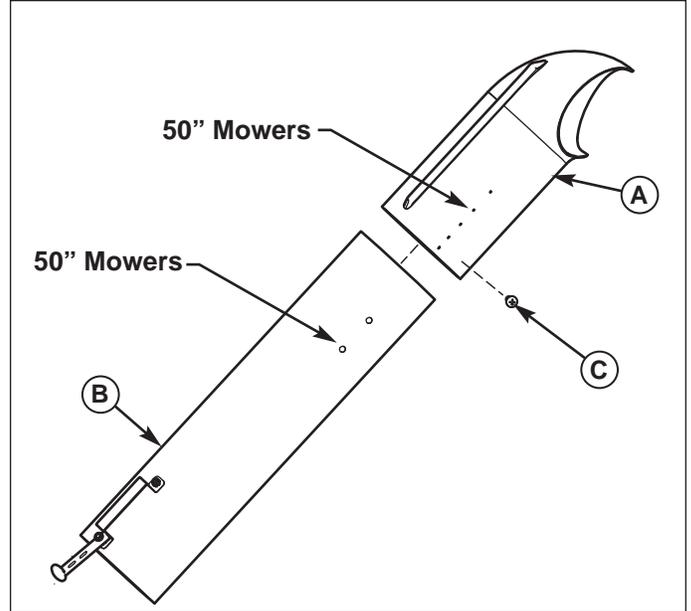

**Figure 7. Install Collector Bags**
1. Raise the cover (A, Figure 7).
2. Attach collector bags (B) using grass bag hanger (C) to bag hanger post (D).
1. Attach bag and cover support assembly (B) to hitch support assembly (A) by sliding the support mount (X) over the upright support until the support mount (X) makes full contact with the shoulder bolts (C).
2. Insert mount pin (D) through the support mount (X) and upright support (A) as shown.
3. Secure mount pin (D) with retainer spring (E).
4. Attach cover assembly (I) to bag support bracket (B) using cover hinge pivots (H). Secure cover assembly to bag support bracket using hinge pins (F) and retainer springs (E).
5. Raise the cover (I), attach collector bags (J) using grass bag hanger (K) to bag hanger post (D, Figure 7).
6. Lift discharge deflector (V) up and insert lower chute rod (S) into mounting plate (T).
7. Pull rubber strap (U) below discharge deflector (U) and secure lower chute (R) to mower deck by placing hole in rubber strap (U) (hole closest to lower chute) over locknut mount (W).
8. Slide upper tube (M) into cover (I) aligning ridge (N) with ridge cutout (L).
9. Slide tube assembly (O) over lower chute (R) securing tube assembly (O) to lower chute (R) using rubber strap (P) on tube assembly (O) to pin (Q) on lower chute (R).